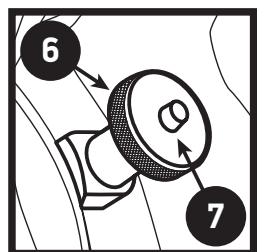

Figure 5
9. Ensure that the abrasive belt is tensioned properly. To do this, raise the tensioning handle (Figure 5). You will hear mechanical clicks as the tensioning ratchet moves. Generally, the belt will be adequately tensioned when you hear three to eight clicks. To reduce or release the belt tension slightly raise the tensioning handle then press the button in the center of the tensioning handle. Move the tensioning handle down slightly to reduce belt tension or all the way down to release belt tension.